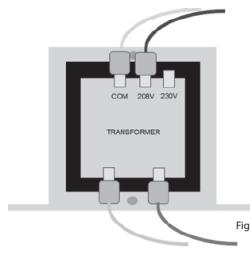

Figure 2: Transformer wiring for 208V
3. Remove the connection cable from the right-hand connector (labelled 230V) and connect the cable to the centre connector (labelled 208 V), as shown in Figure 2 below.